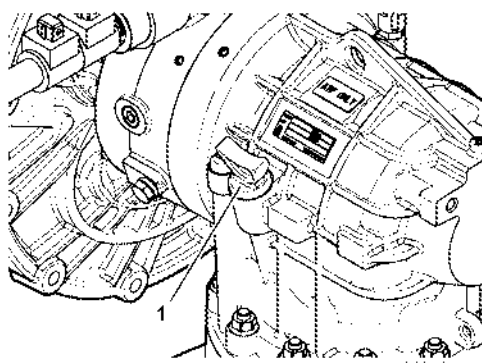

Figure 26
17. Install the dipstick (1, Figure 26) with the new O-ring.